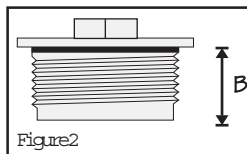

Figure2
- B. Measure the length of the fork cap that screws into the fork tube (See figure 2).